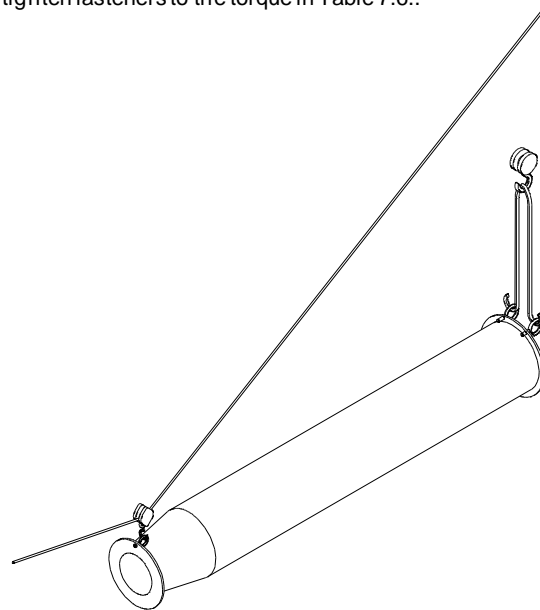

Fig. 12 Column section with dragline attached
1. Connect a dragline to the lower end of the column flange, to be used in guiding and aligning the column over the shaft. See fig. 12. The use of the dragline will prevent accidental bumping of the shaft by the column that could bend the shaft.